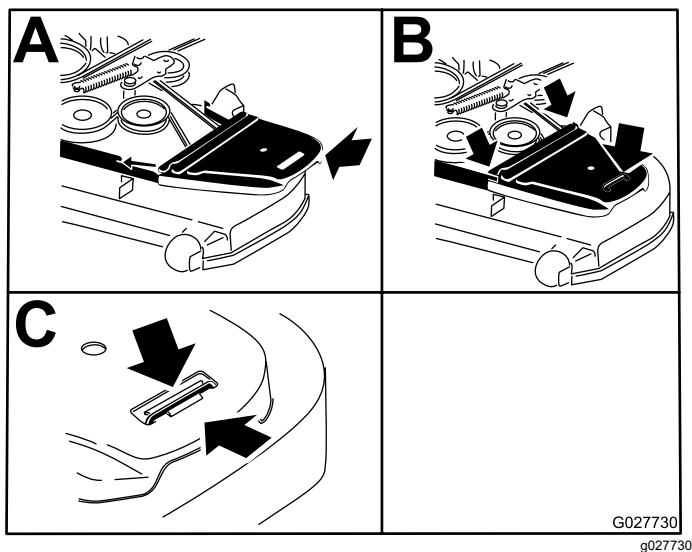

Figure 71
12. Install the belt covers (Figure 71).